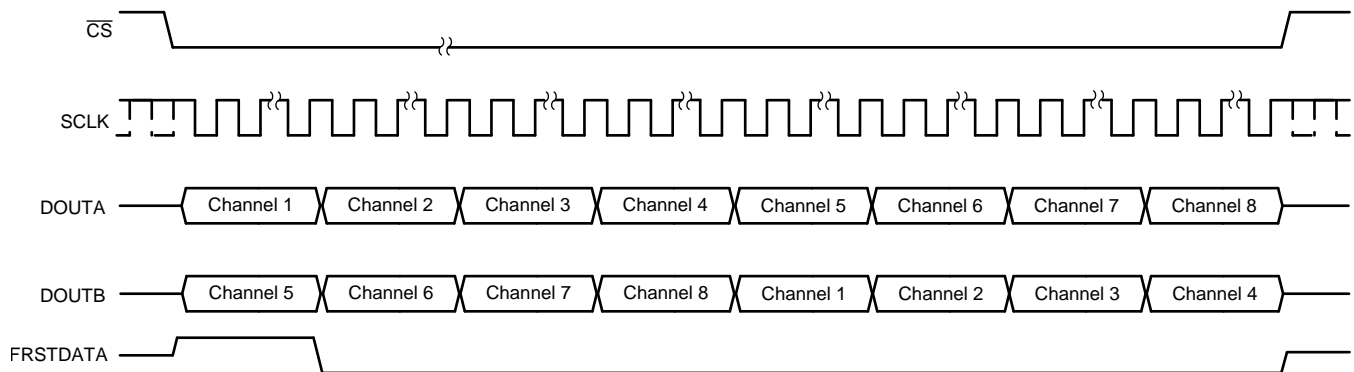

Figure 69. Data Read Back in the Serial Interface Using Either DOUTA or DOUTB Timing Diagram
- The conversion data can be read out of the device using only one of the two serial output lines, DOUTA or DOUTB. In this case, using DOUTA for output data read back is recommended because channel 1 data appear first on DOUTA followed by the data for other channels in ascending order. To read the data for all channels, provide a total of  $16 \times 8 = 128$  SCLK cycles for the ADS8588S. This entire data frame can be created within a single  $\overline{CS}$  pulse or each group of 16 SCLK cycles can be individually framed by the  $\overline{CS}$  signal. The primary disadvantage of using just one data line for reading conversion data is that the throughput is reduced if a data read operation is performed after conversion. Figure 69 shows this operation.
- Alternatively, only DOUTB can be used for reading the conversion data from all channels. In this case, everything else remains the same and the output bit stream contains data for all channels in the following order: channels 5, 6, 7, 8, 1, 2, 3, and 4 for the ADS8588S. Figure 69 shows this operation.